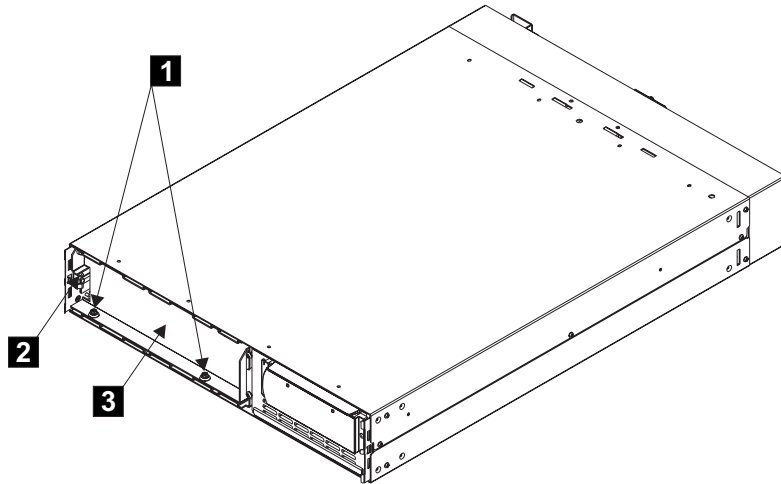

Figure 222. Removing the battery retaining bracket
- a. Remove the two bolts **1**. See Figure 222 on page 479.